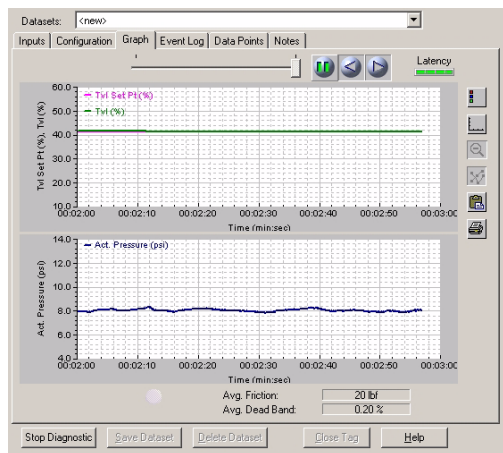

Figure 4. Valve Friction and Deadband Analysis
- On-Line Friction and Deadband Analysis (see figure 4)